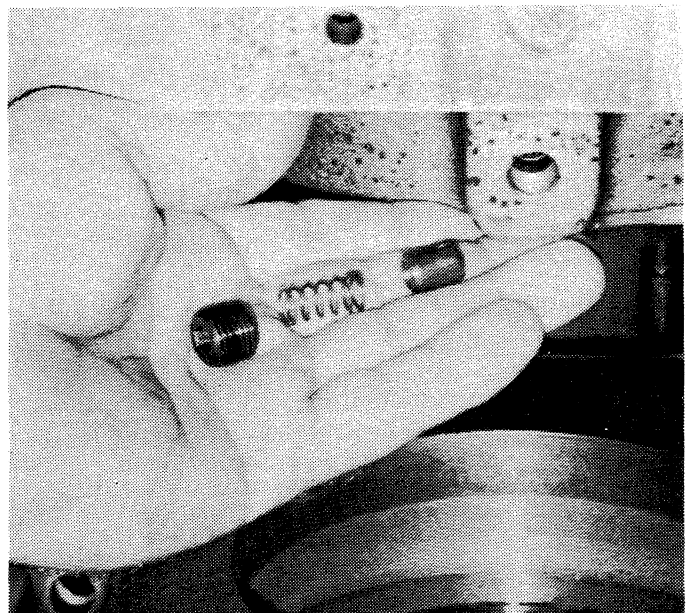

Figure 6-36. Rollpin, Spring, and Pipe Plug Removed.
Pipe plug (Figure 12-5, 21) spring (22), and rollpin (23) need not be removed from the housing at the front of the output shaft unless roller bearing (25) is being replaced. See Figure 6-36.